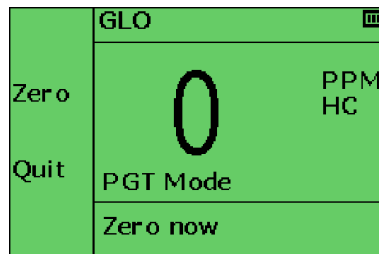

Figure 42: Access Menu
1. From the normal operating display, press the **PGT** button. This opens the PGT menu as shown in Figure 42: PGT Menu.